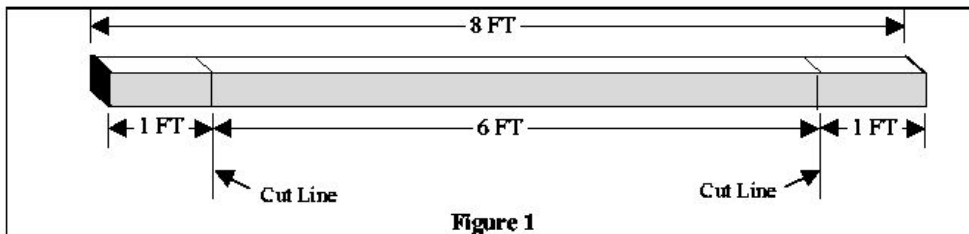

Figure 1
- 1) Cut off two 1-ft lengths of the 2x4, with the cuts being perpendicular to the long edge (See Figure 1).